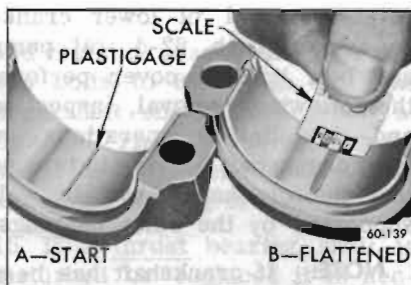

Figure 60-324—Checking Bearing Clearance with Plastigage
2. Place a piece of Plastigage lengthwise along the bottom center of the lower bearing shell (Figure 60-324, View A), then install cap with shell and tighten bolt nuts to 40-50 lb. ft. torque.
5. Using the scale printed on the Plastigage envelope, measure the flattened Plastigage at its widest point. The number within the graduation which most closely corresponds to the width of Plastigage indicates the bearing clearance in thousandths of an inch. See Figure 60-324, View B.